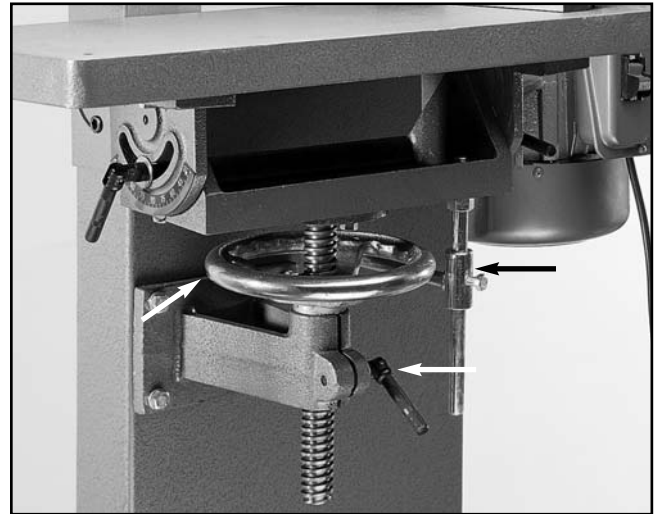

Figure 22. Table height adjustment.
1. Loosen lead screw lock handle and stabilizing shaft lock bolt. **See Figure 22.**